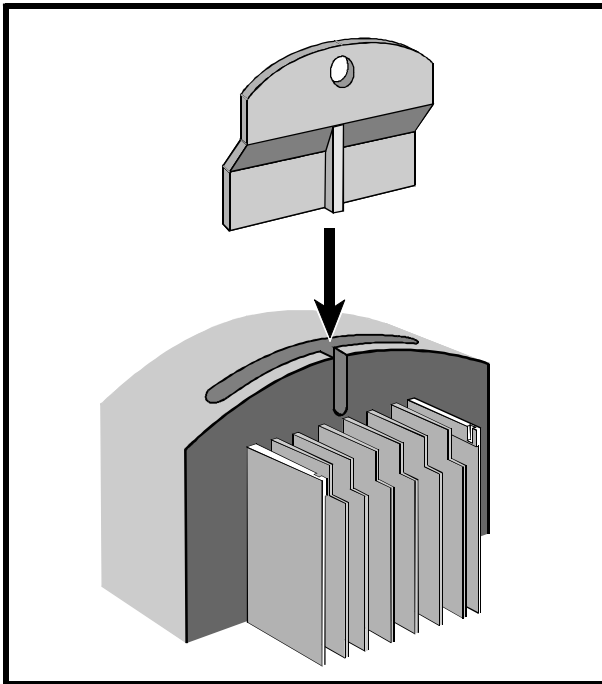

Figure 2–13 General representation showing the fitting of a through-panel mounting bracket in the top of the Drive
3. Insert the through-panel mounting bracket into the recess in the top of the Drive heatsink, as shown in Figure 2–13.